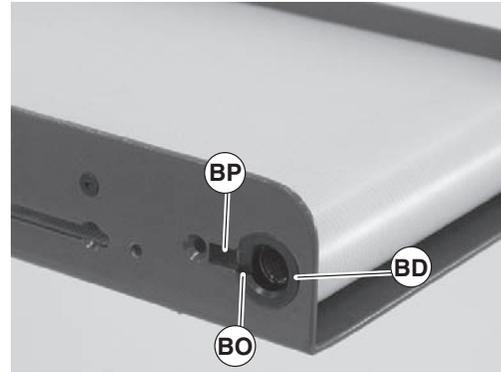

Figure 54
8. Align slot (Figure 54, item BO) in retaining sleeve (BD) with slot in conveyor frame (BP).